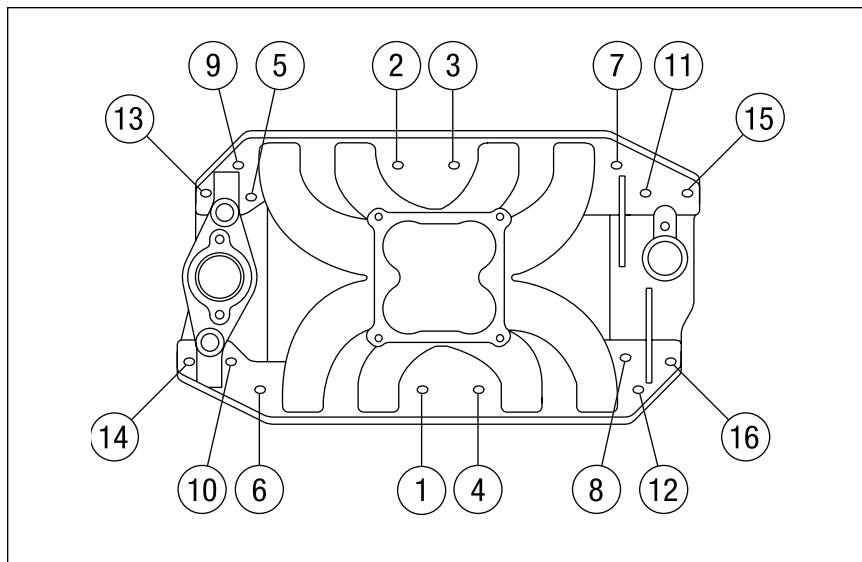

Figure 3 - Manifold Bolt Torque Sequence
4. Install the intake manifold and hold-down bolts. Torque the manifold bolts to 25 ft/lbs in small, even steps, following the factory recommended torque sequence (**See Figure 3**). If you cannot fit a torque wrench on some of the bolts, use a small box end wrench to avoid over tightening.